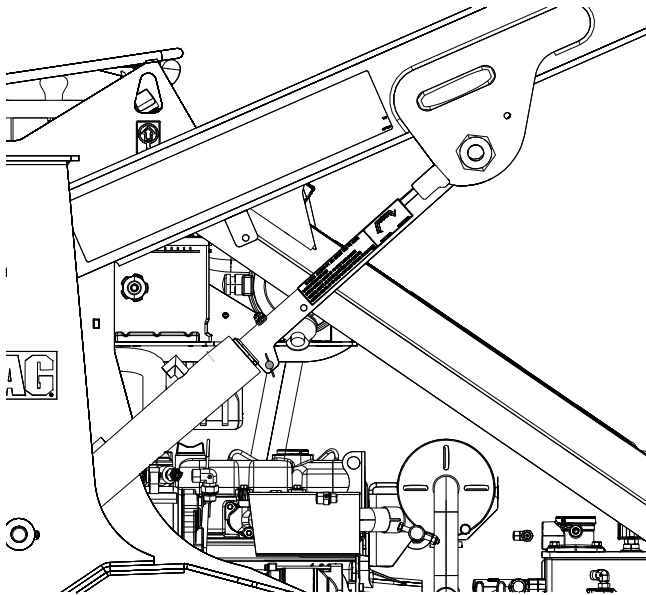

Figure 2-1. Engaged Cylinder Lock
12. When performing service which requires arms to be raised, make sure cylinder lock is engaged and secure. See figure 2-1 and Section 6.3.